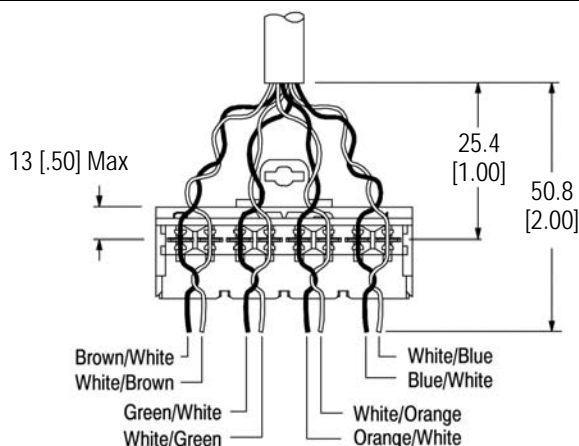

Figure 3
1. Prepare the cable as shown in Figure 3 by removing approximately 50.8 mm [2 in.] of the cable jacket.